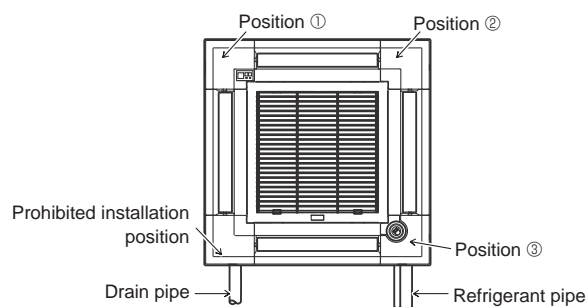

Fig. 6-11
The signal receiver corner panel can not be installed on the drain pipe side for the main unit. (Refer to Fig. 6-11)
- The i-see Sensor corner panel should be fixed onto the grille ① with screw ③.
- If the position of the i-see Sensor was changed from default position (position ③) to the other position, change the function settings. (Fig. 6-11)
- The i-see Sensor corner panel can not be installed on the drain pipe side for the main unit. (Refer to Fig. 6-11)